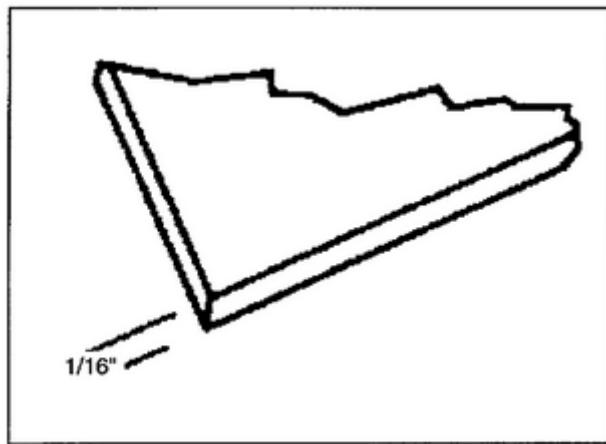

Figure 1-19. Nonferrous grounding plate
b. Nonferrous (copper or brass) grounding plates must be at least 1/16 inch thick (Figure 1-19).